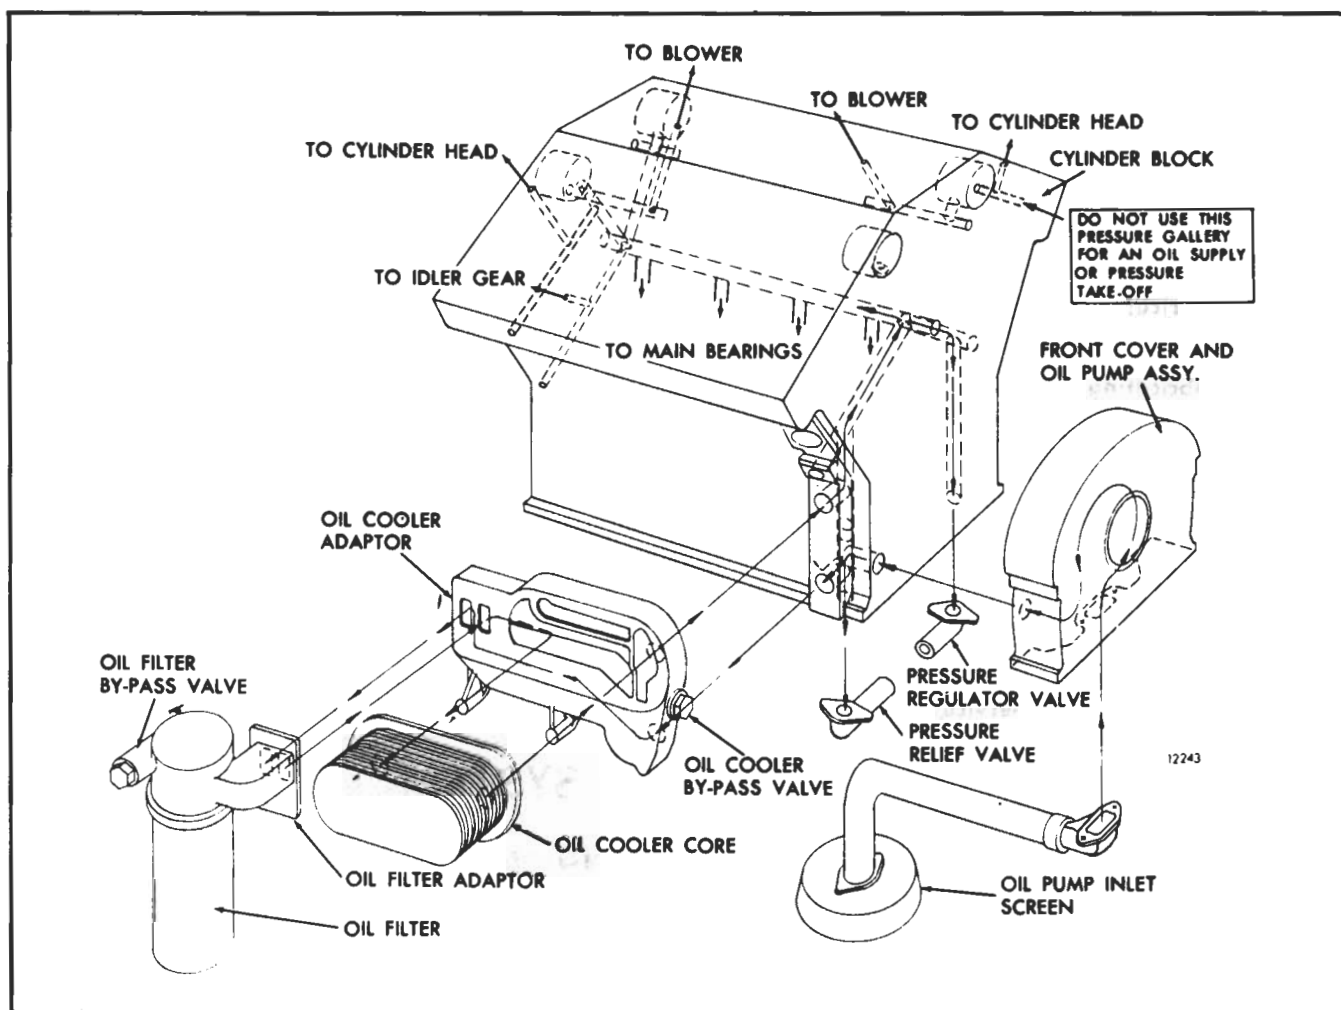

Fig. 1 - Schematic Diagram of Typical 6V and 8V Lubrication Systems
Figure 1 schematically illustrates the flow of oil through a typical 6V or 8V-92 engine lubrication system including the various components such as the oil pump, full-flow oil filter, oil cooler, pressure regulator and by-pass valve.
Stabilized lubricating oil pressure is maintained within the engine at all speeds, regardless of the oil temperature, by means of a pressure regulator valve located at the end of a vertical oil gallery connected to the main oil gallery. This vertical gallery is located at the front of the cylinder block on the side opposite the cooler (Fig. 1). When the oil pressure at the valve exceeds 50 psi (345 kPa), the regulator valve opens, discharging oil back into the sump.
**NOTE:** Do not use the oil gallery on the upper front left bank of the cylinder block (Fig. 1) for an oil supply or pressure take-off. This gallery intersects the cylinder head oil supply gallery. If used, it will reduce oil pressure to the rocker arm assemblies.